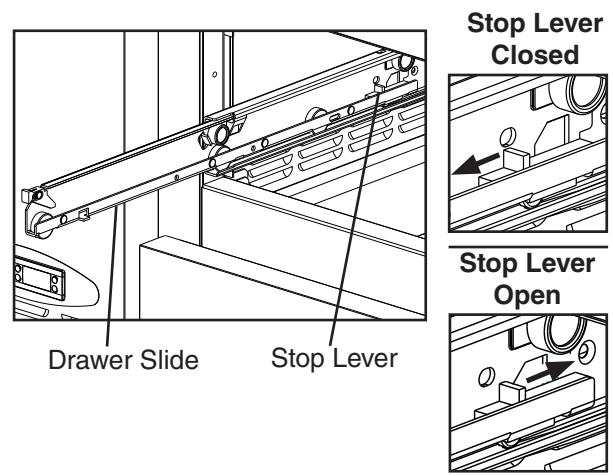

Fig. 37
- **To remove a drawer slide (center slide containing rollers):** Open the stop levers (one on each side) by sliding them to the rear. See Fig. 37. Lift up on the drawer slide slightly, then pull to disengage the drawer slide. **WARNING! Be sure to close the stop levers when reinstalling the drawer.** Drawer slides do not require lubrication, but drawer slides should be kept clean and free of food.